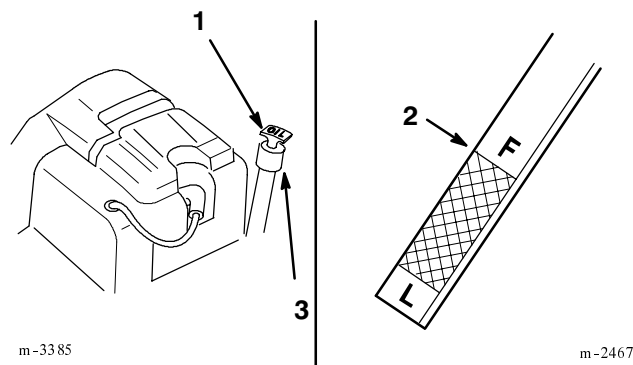

Figure 21
3. Clean around the oil dipstick (Fig. 21) so dirt cannot fall into the filler hole and damage the engine.
4. Pull the oil dipstick out and wipe the metal end clean (Fig. 21).
5. Push the oil dipstick fully into the filler tube (Fig. 21). Pull the dipstick out and look at the metal end. If oil level is low, slowly pour only enough oil into the filler tube to raise the level to the "FULL" mark.
6. Slowly pour approximately 80% of the specified amount of oil into the filler tube (Fig. 21). Now check the oil level; refer to Checking Oil Level, page 23. Slowly add additional oil to bring to "FULL" mark on dipstick.